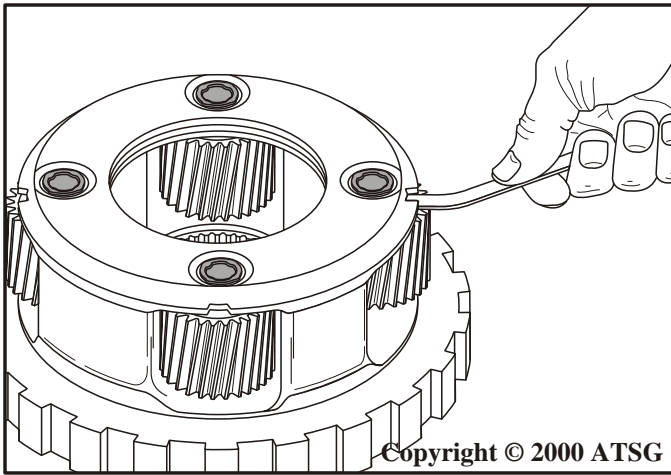

Figure 143
2. Check all 3 planetary carriers for proper pinion end play with a feeler gage (See Figure 143).